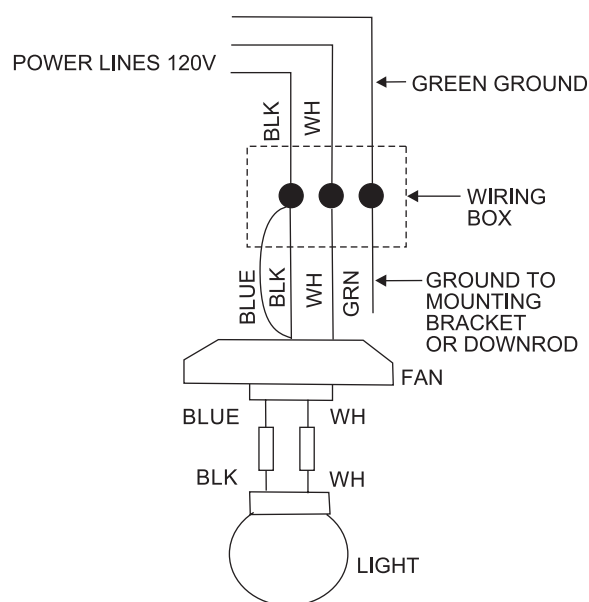

Figure 11
**Step 1** Connect the fan supply (black) wire and light supply (blue) wire to the black household supply wire as shown in Figure 11.